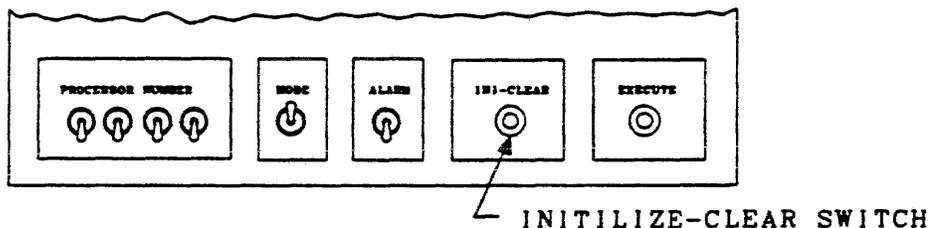

FIGURE 4-11. CONFIGURATION PANEL
- If the trouble indicator located on the Operator Control Panel illuminates, press the Ini-Clear pushbutton switch located on the Configuration Panel to clear. See Figures 4-11 and 4-12.
- Verify that the POWER ON indicator is illuminated and the POWER OFF indicator is extinguished. These indicators are located on the Operator Control Panel. See Figure 4-11.